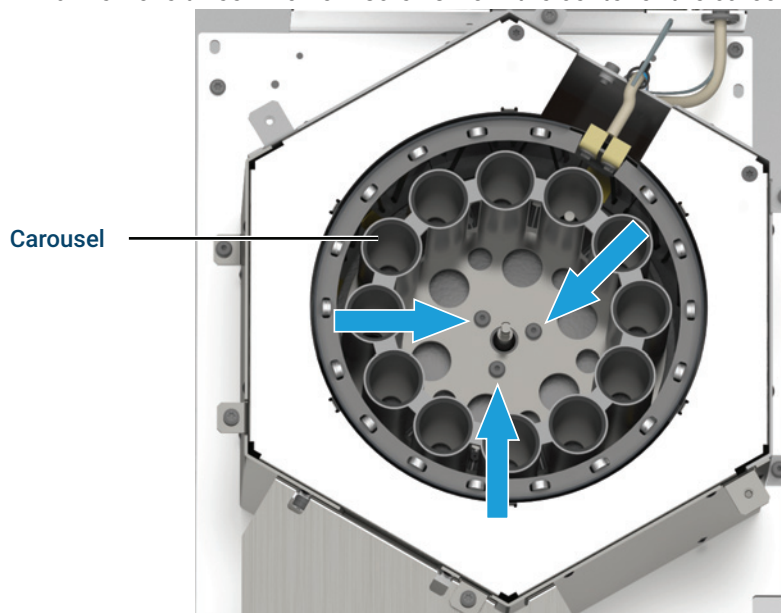

Figure 15. Removing the carousel
- b Remove three T-20 Torx screws from the center of the carousel (Figure 15).